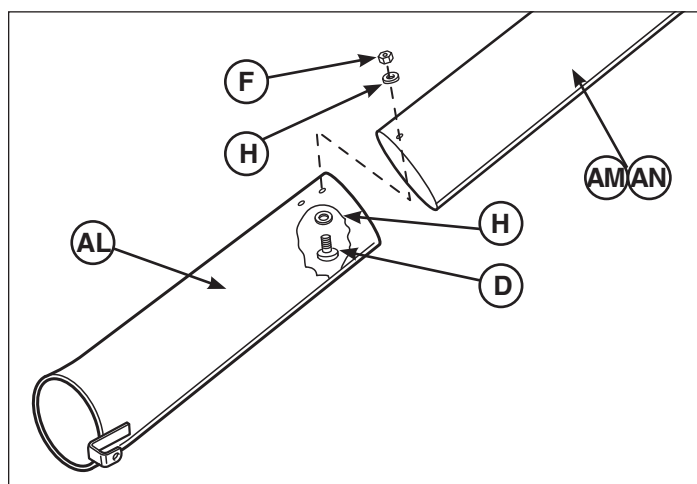

Figure 27
4. Slide upper tube (**AM / AN**, Figure 27) over lower tube (**AL**) and secure with screw (**D**), washers (**H**) and nut (**F**).